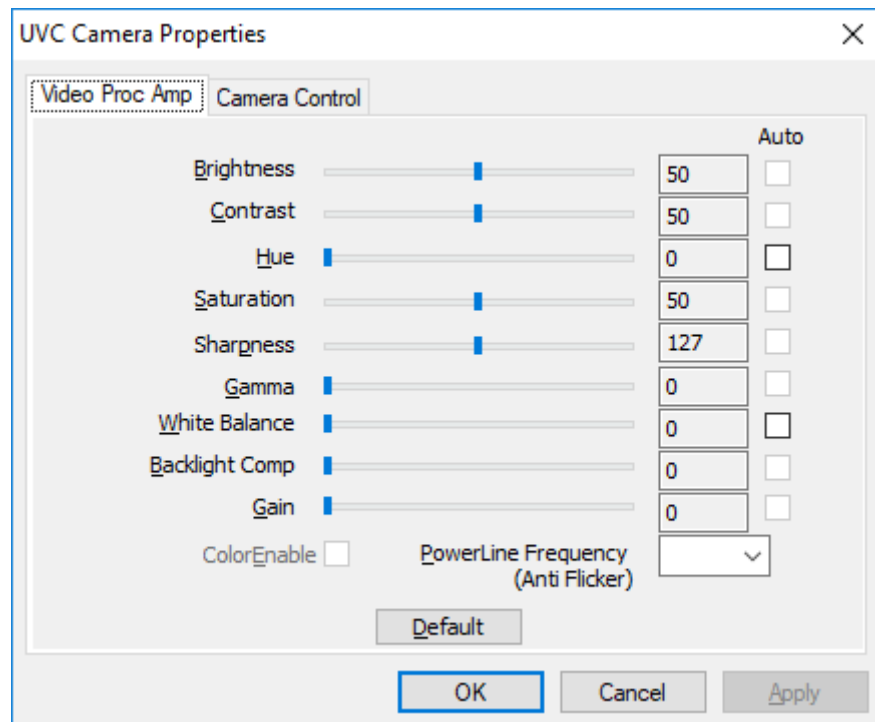
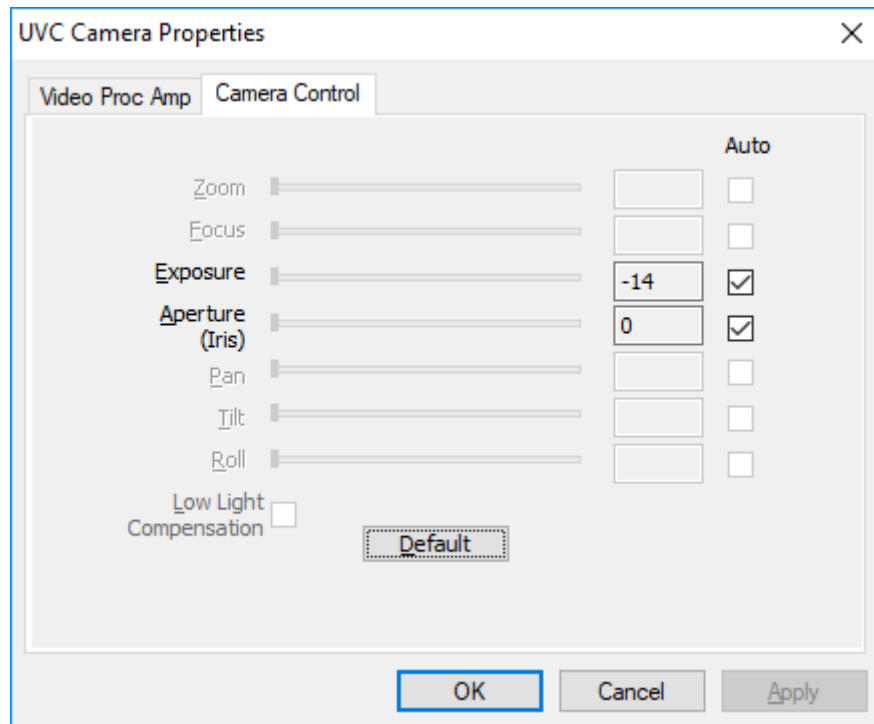

Fig 5-44 Video Properties Parameter Setting
Fig 5-45 Camera Control in Properties
- (3) Setting :  Setup the video properties, users can adjust the parameter for the preview video. See Fig 5-44, the parameter for setup video properties. Fig 5-45 is the parameter to setup camera control.